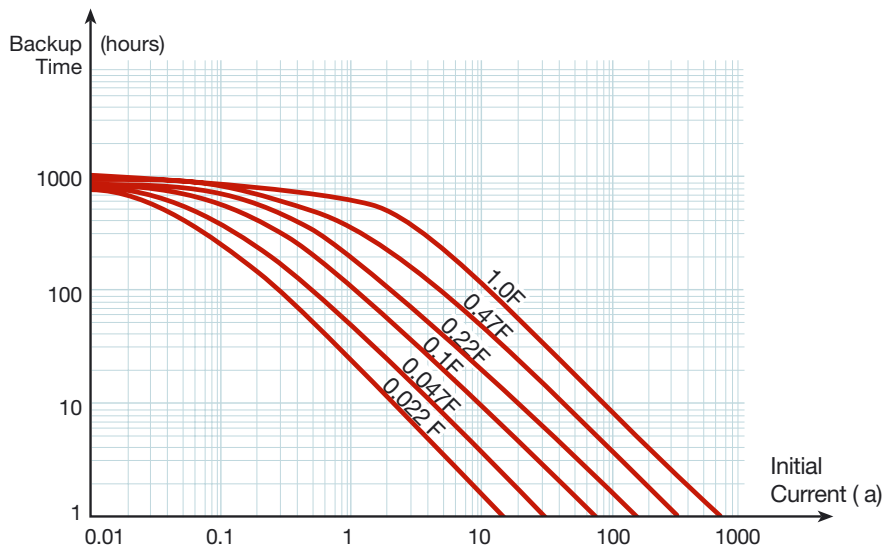

Figure 5. Minimum Backup Time Versus Initial Current for CMOS RAM Applications Using Maxcap DLC LP and LF Series from 5 to 2 Volts at 25°C
Figures 5 and 6 show minimum backup time for a voltage range of from 5 to 2 volts, the typical data retention range for CMOS RAMs.
**Note:** Figure 5 and 6 curves are based on discharge times of Maxcap DLCs through constant resistance loads. Initial current is the load current at 5.0 volts.